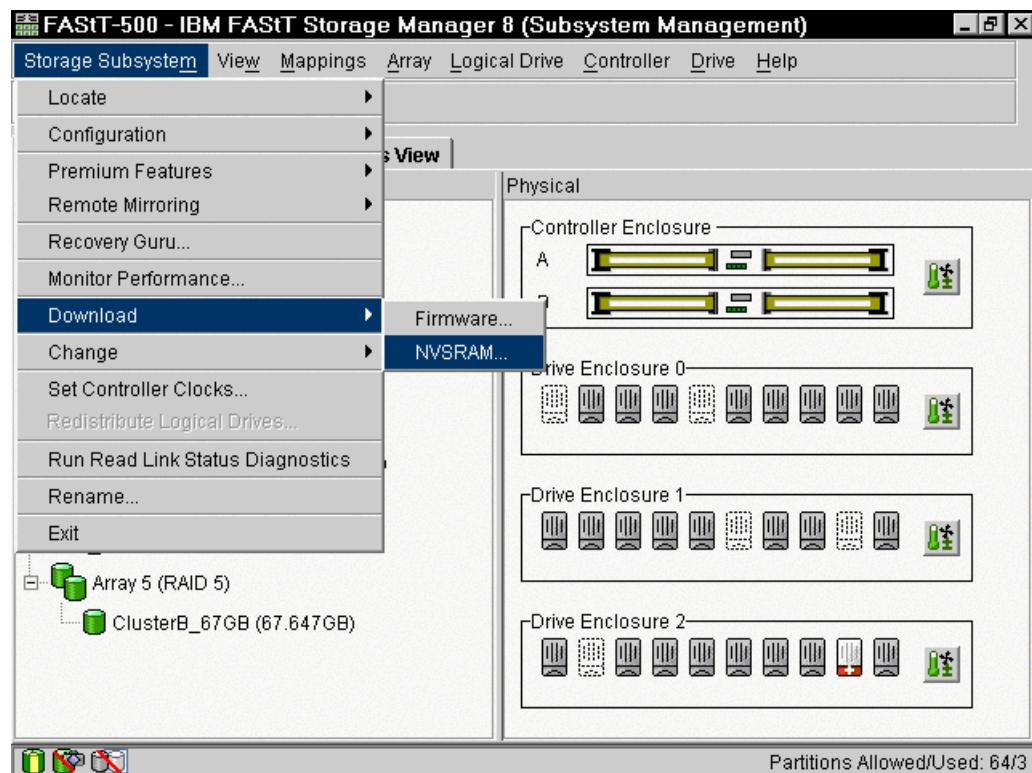

Figure 7-12 Downloading NVSRAM
- Click **Storage Subsystem-> Download-> NVSRAM**. See Figure 7-12.